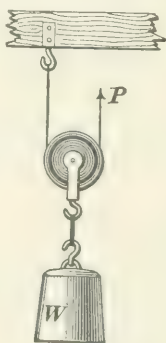
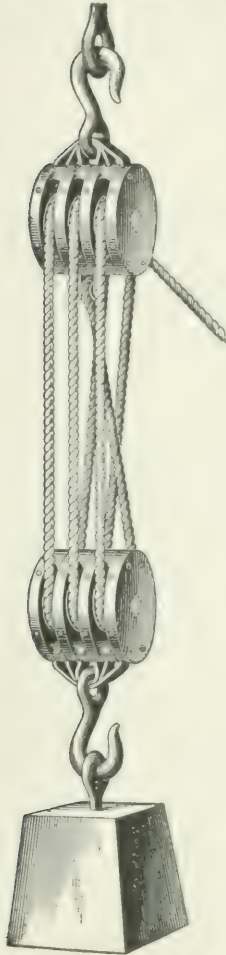

FIG. 29.
FIG. 31.
72. A *movable pulley* is one whose block is movable, as in Fig. 29. One end of the cord is fastened to the beam and the weight is suspended from the pulley, the other end
73. A *combination of pulleys*, as shown in Fig. 31, is sometimes used. In this case there are three movable and three fixed pulleys, and the amount of movement of W , owing to a certain movement of P , is readily found.
EXAMPLE.—In an ordinary block and tackle having three movable pulleys, as shown in Fig. 31, how great a force must actually be applied to raise 2,000 pounds?
77. If the free end of the hauling rope passes first around a stationary sheave, as in Fig. 31, it does not make any difference in what direction in the plane of the sheave the rope is pulled. If it passes first around a movable sheave, however, as in Fig. 29, the pull must be exerted in a line parallel to the line of action of the resistance, or a line joining the